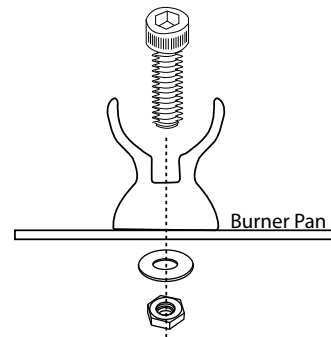

Fig. 10 Shows assembly of burner support to pan.
Step 5: Drill (4) 1/4" holes into the burner pan to attach the burner supports. See Fig. 10.